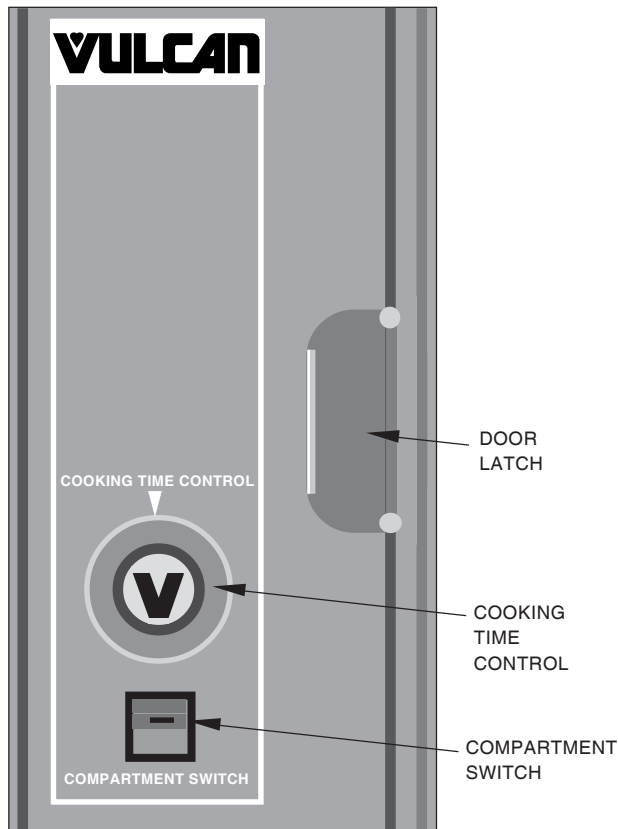

Fig. 6
14. Press the top of the compartment switch (Fig. 6 or 7) to start the timer. Steam will be heard entering the compartments.
## STANDARD AUTOMATIC COMPARTMENT CONTROLS — VHL2 & VHL3 STEAMERS (Fig. 6)